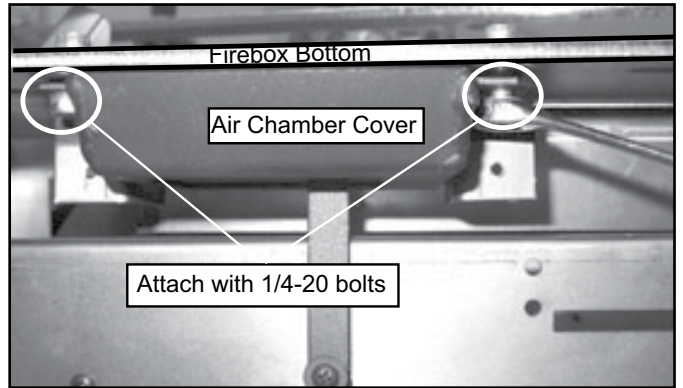

Figure 37.4
8. Remove old air chamber cover. Place the cover under the bottom of the firebox. Using a 7/16 wrench attach the (2) 1/4-20 bolts as shown in Figure 37.4.